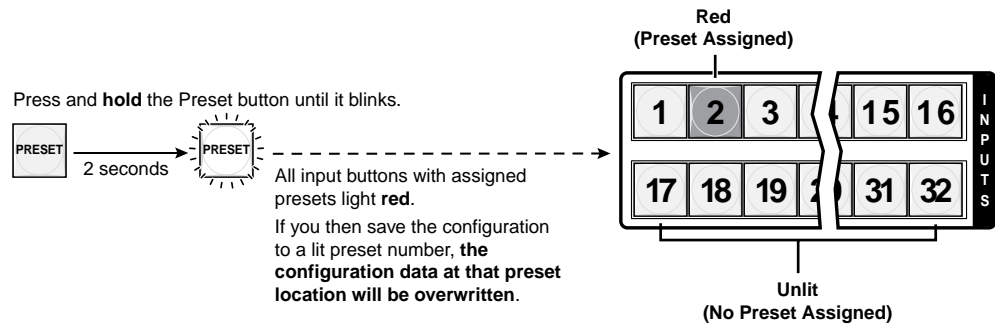

Figure 3-38 — Enter Save Preset mode
2. Press and **hold** the Preset button for approximately 2 seconds until it blinks (figure 3-38).